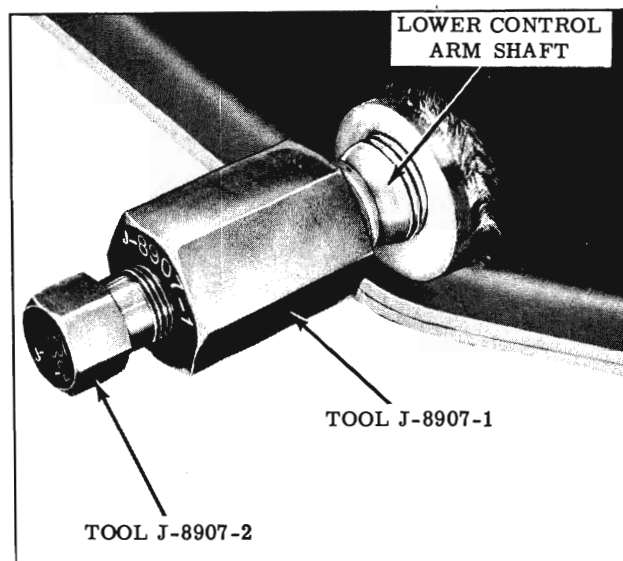

Fig. 5-107 Replacing Lower Shaft
2. Place Tool J-8907 on rear end of shaft. Adjust lock bolt so tool will not thread tightly and bind on shaft. (Fig. 5-107)